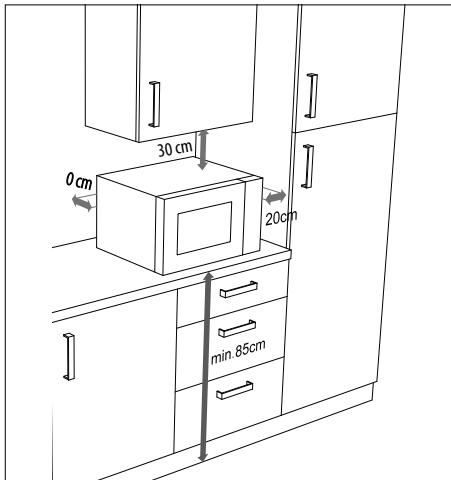

Fig. 2 – Appliance clearance
- ▶ To ensure adequate ventilation, the clearances specified in "**Fig. 2 – Appliance clearance**" must be maintained. The spacer at the back of the appliance must touch the wall. It ensures that the correct clearance is maintained when positioning the microwave.